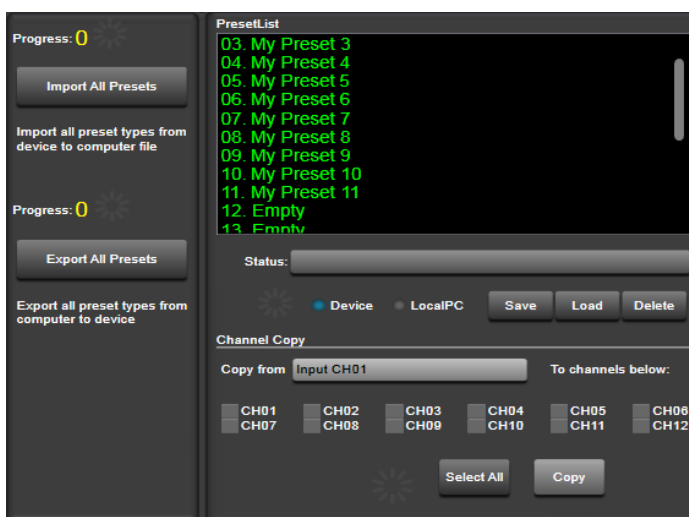

Fig. 27 View "Save/Load/Copy"
7.12 View "Save/Load/Copy" (fig. 27)
The name of the input or output selected can be found in the field "Copy from" (see fig. 27).
- 3) Under "To Channels below:" (see fig. 27), select the channels to which these settings are to be copied.